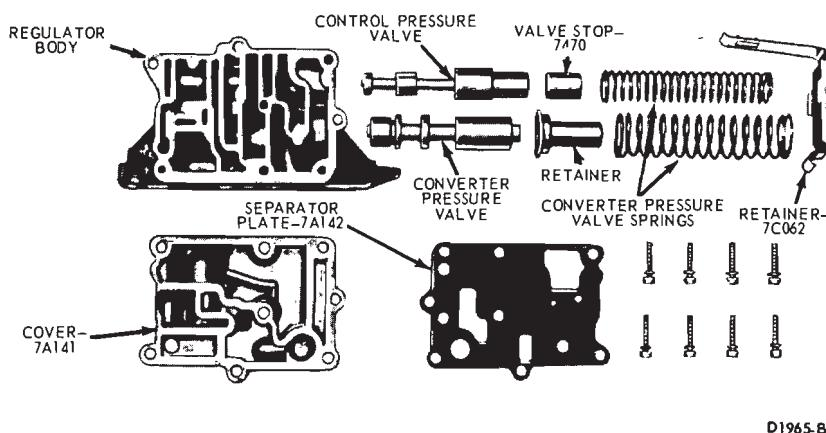

FIG. 46—Pressure Regulator Disassembled
2. Remove the regulator body cover attaching screws, and remove the cover (Fig. 46).
12. Insert the valves in the pressure regulator body (Fig. 46).